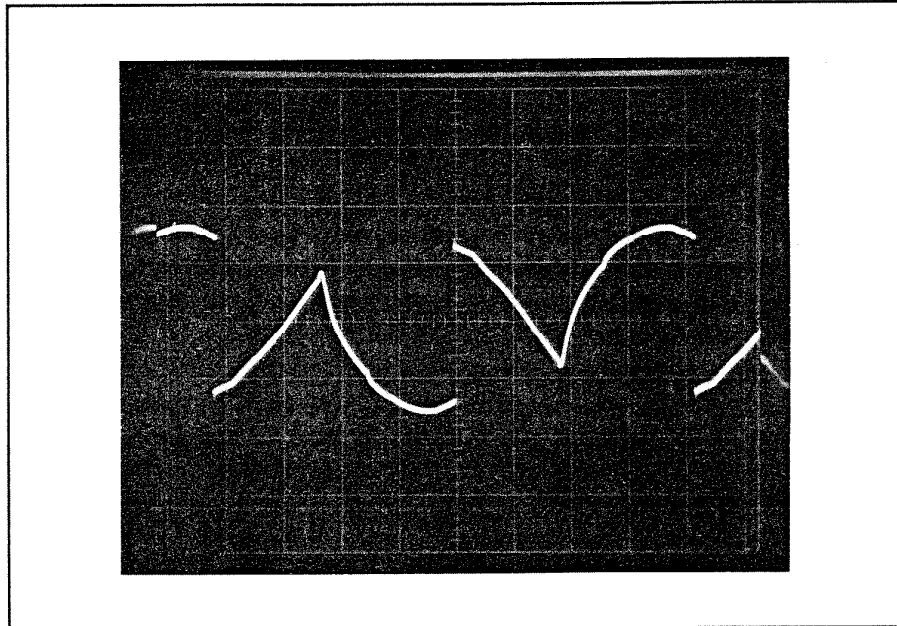

Figure 1: Triac conduction at idle, viewed at MT2.
- D) Check triac firing for good symmetry (see Figure 1).
- A) Observe normal triac conduction at idle point (See Figure 1).